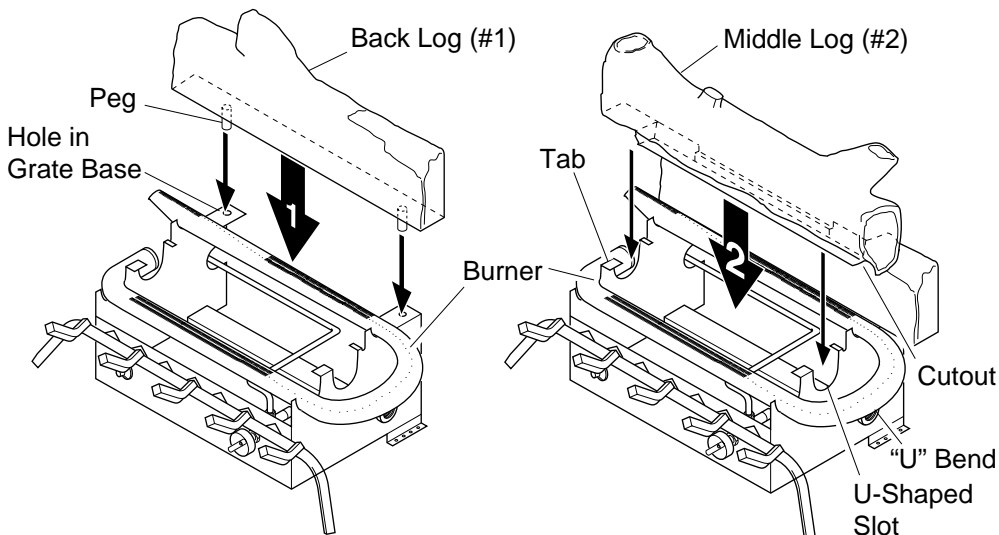

Figure 15 - Installing Back Log (#1) **Figure 16 - Installing Middle Log (#2)**
1. Locate pegs on the bottom of back log (#1). Slide these pegs into the holes in the grate base behind the burner (see Figure 15).